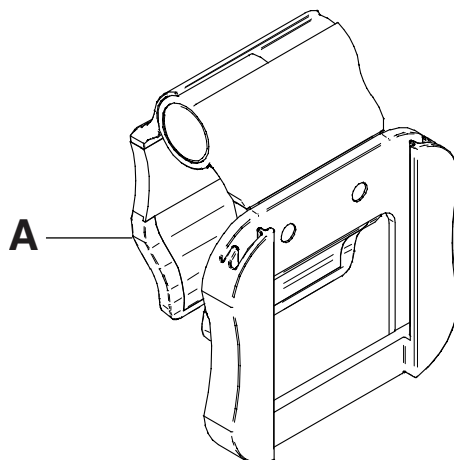

Figure 124: Patient control pendant clip
1. Raise the clip (A) (Figure 124 on page 111).